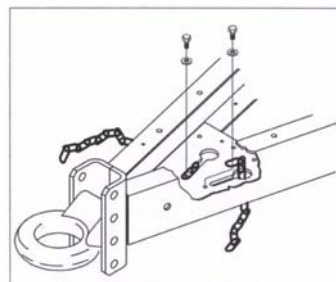

Figure 2
6. Install the four bolts (with pre-applied thread lock) to the four points inside the enclosure and torque to 68 ft. lbs. (9.4kg-m) (See Fig.2).